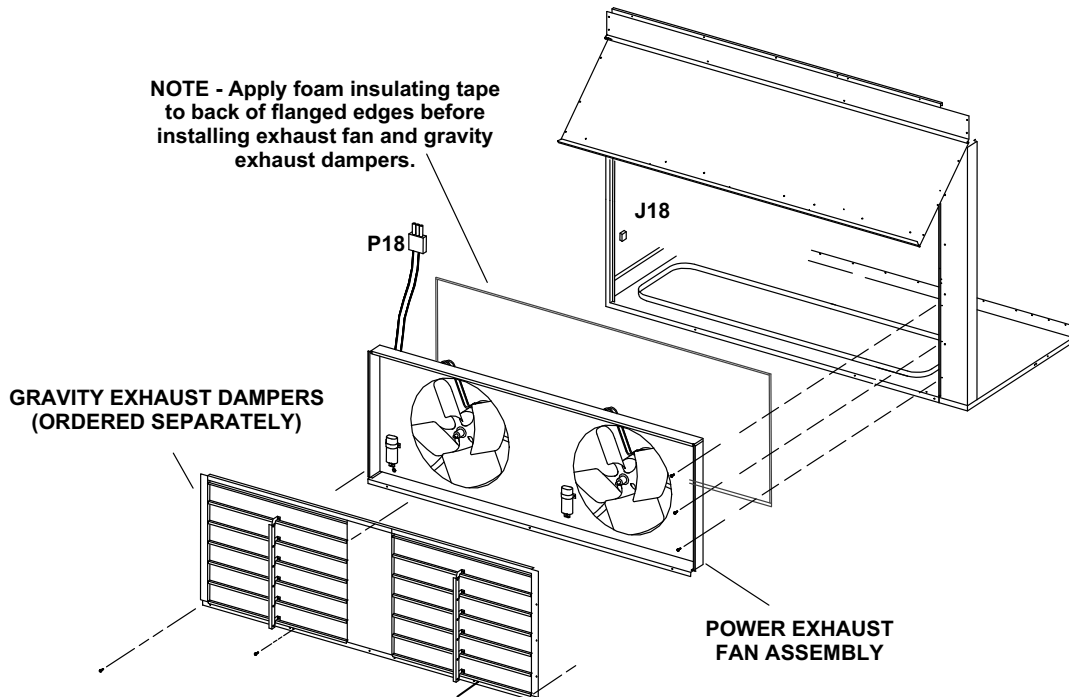

FIGURE 13
- 4- Reach through fan orifice and connect power exhaust fan P18 plug to unit J18 jack. J18 is located on the left side underneath the fresh/exhaust air divider panel. See figure 13. Coil and wire tie excess wire away from moving parts.
- 5- Lift the fan assembly into the opening and insert the top side first. Align the top of the assembly inside the flange on the division panel. Secure the bottom of the assembly to the unit with screws provided. See figure 13.